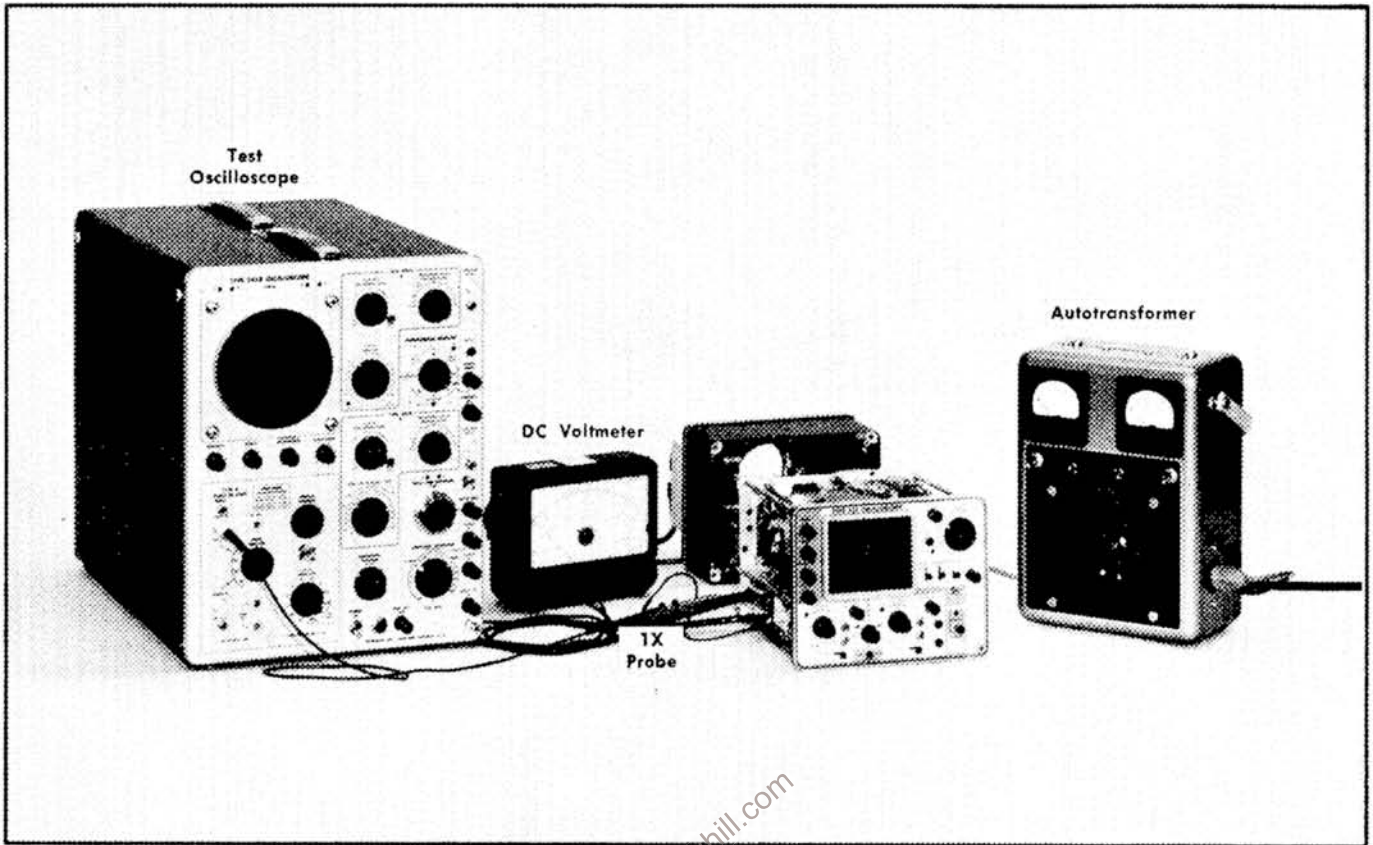

Fig. 6-9 Test equipment setup for checking ac power supply regulation and taking power supply ripple measurements.
- a. Test equipment setup is shown in Fig. 6-9.